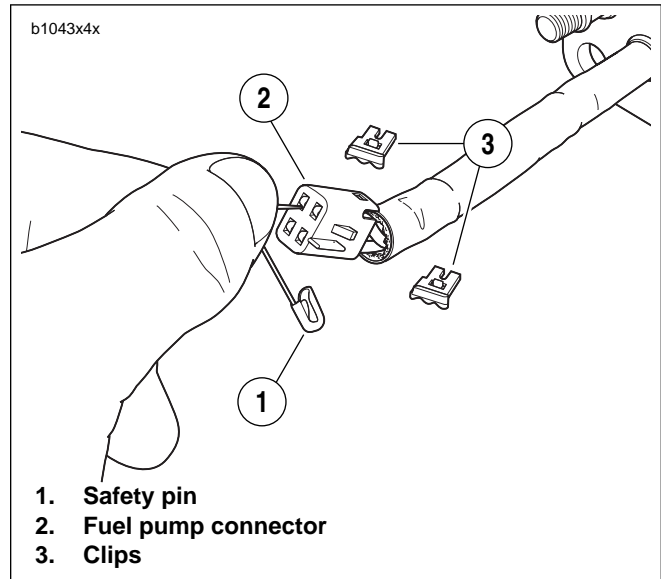
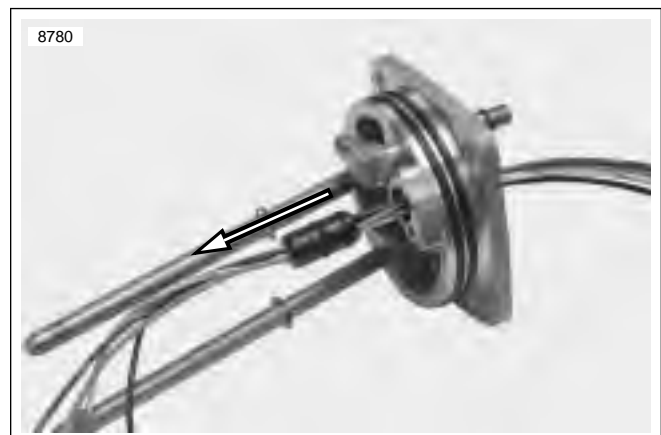

Figure 4-94. Fuel Pump Connector Disassembly
Figure 4-95. Wire Harness Removal Direction
- a. See Figure 4-94. Remove connector clips (3).
- b. Insert push pin/safety pin (1), into connector as shown.
6. See Figure 4-95. From outer side of fuel pump assembly, push wire harness through assembly.